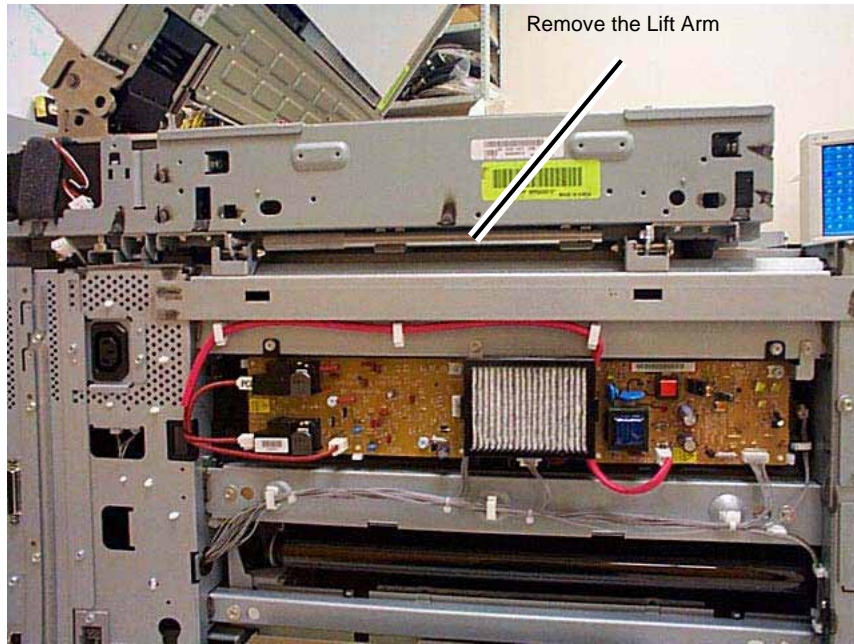

Figure 6 Removing the Lift Arm
11. Remove the Lift Arm used to open/close the IIT Housing (Figure 6).